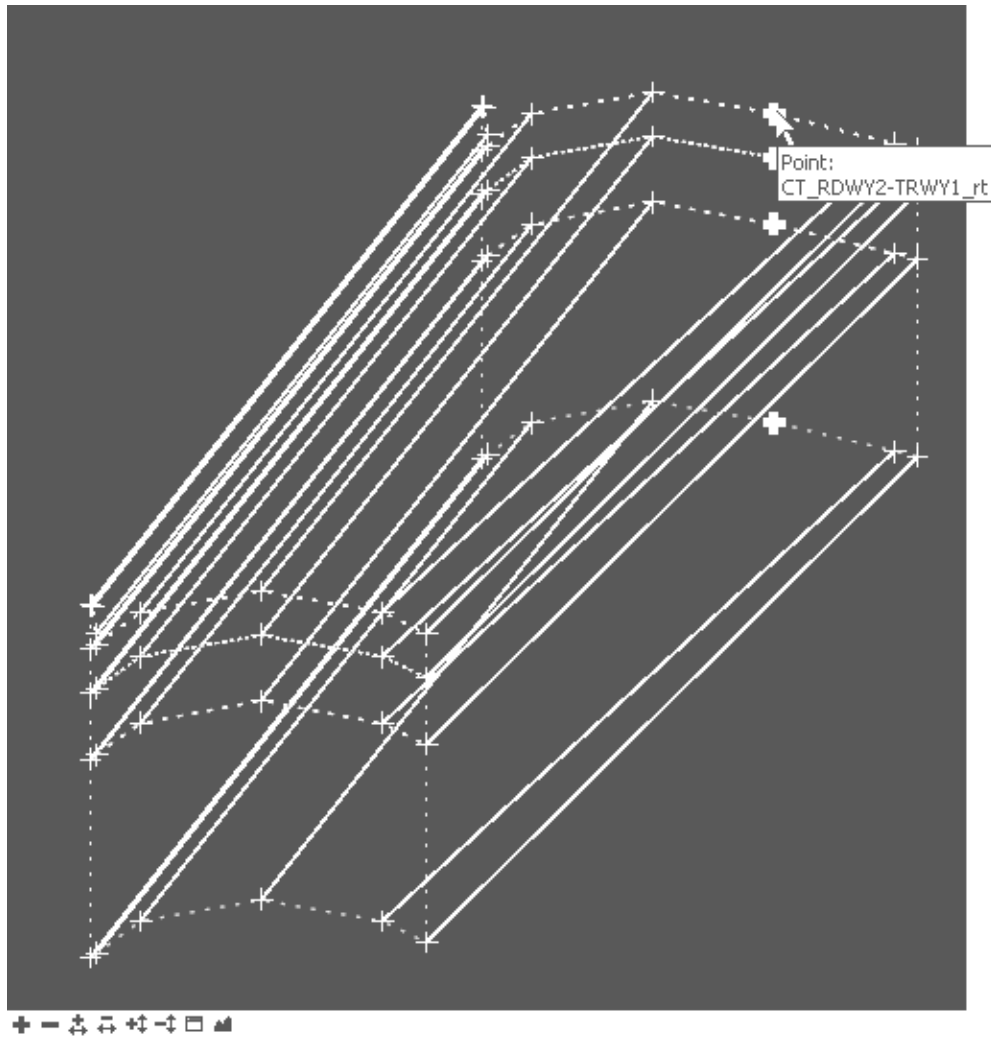

Figure 7-3 InRoads Edit Transition dialog box
- A. Right click over the yellow highlight and select the **edit** command. This will initiate the edit transition dialog box. This dialog box shows a window with an outline of the two templates that are transitioning. In the example shown in Figure 7-3, CT_RDWY2 travelway point does not exist in CT_RDWY1. Right click over points in this dialog to move the view angle. This action may be required to view all the points that do not match up. The bolded (+) indicates orphaned points.